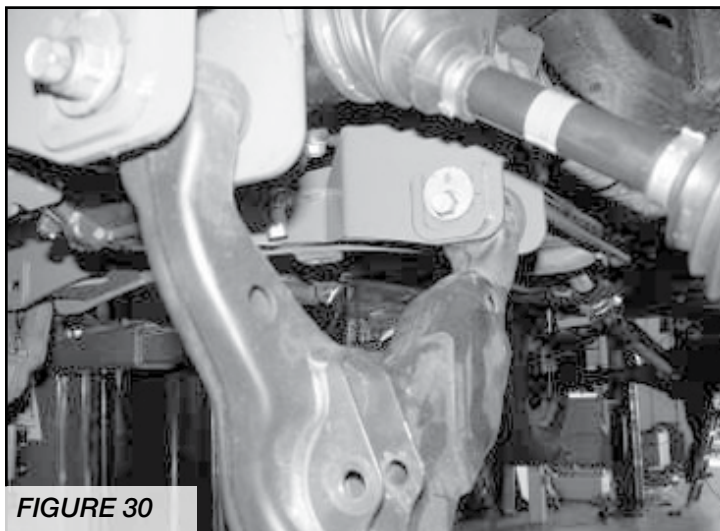

FIGURE 30
23. Install the factory lower control arms, using stock alignment bolts and hardware, set cams in the middle of their adjustment range and leave loose. **SEE FIGURE 30**